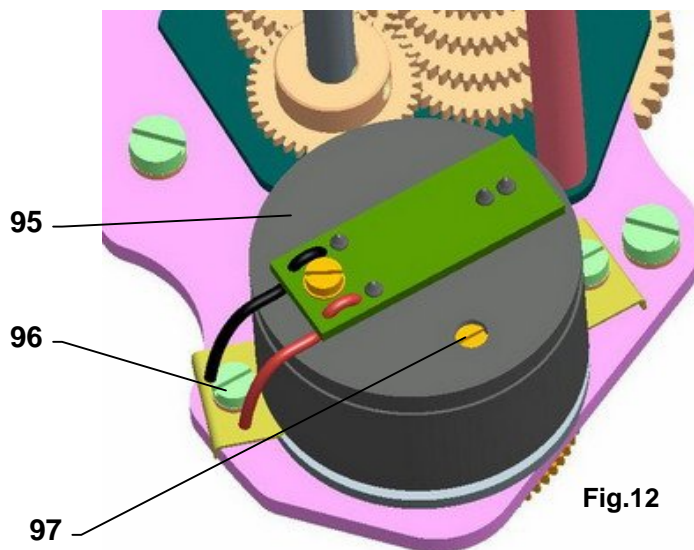

Fig.12
4.7 Adjustment of Capacitive Transmitter CPT1/A (Fig.12)
The trimmer (97)(Fig.12)) can be used to adjust the output signal of the capacitive transmitter to any value of operating stroke in range from ca 50% up to 100% of the max. value of the operating stroke on the competent degree according to table 3.